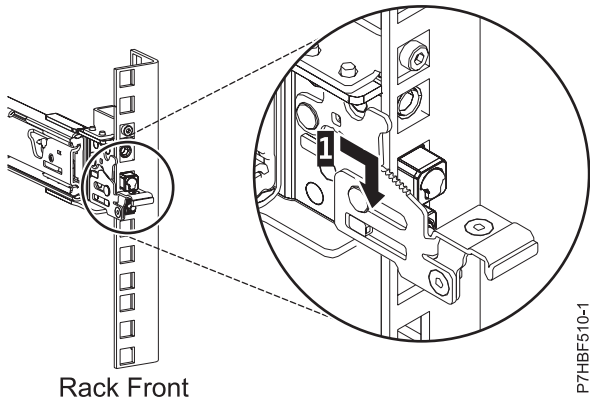

Figure 6. Rack front rail with pins seated
6. Pull the slide rail forward and insert three pins on the front of the rail into the holes within the selected U that were previously marked. Lower the slide rail down **(1)** to engage the hook feature on the middle pin, as shown in Figure 6.